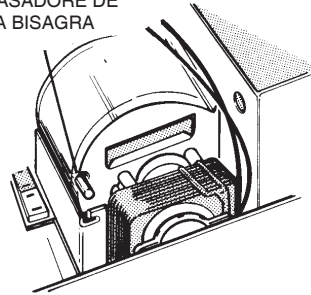

FIG. 3
5. Remove the mounting screw and carefully lift the fan assembly out of the housing. (FIG. 3)